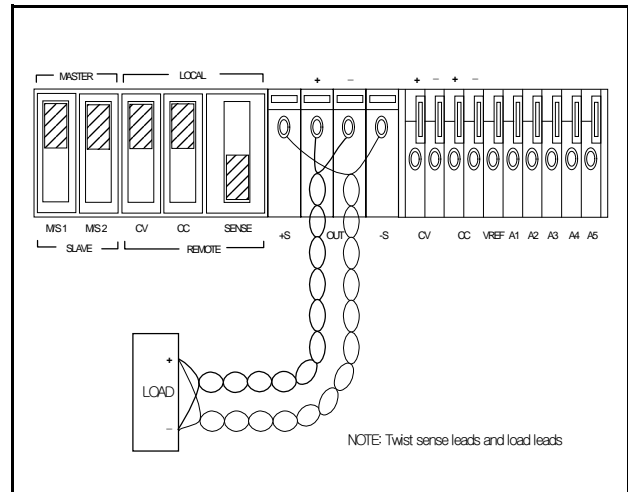

Figure 5. Remote Voltage Sensing
**Remote Sensing Connections.** Remote sensing requires changing settings of the rear panel switch and connecting the load leads from + and - output terminals to the load and connecting the sense leads from the +S and -S terminals to the load as shown in Figure 5.